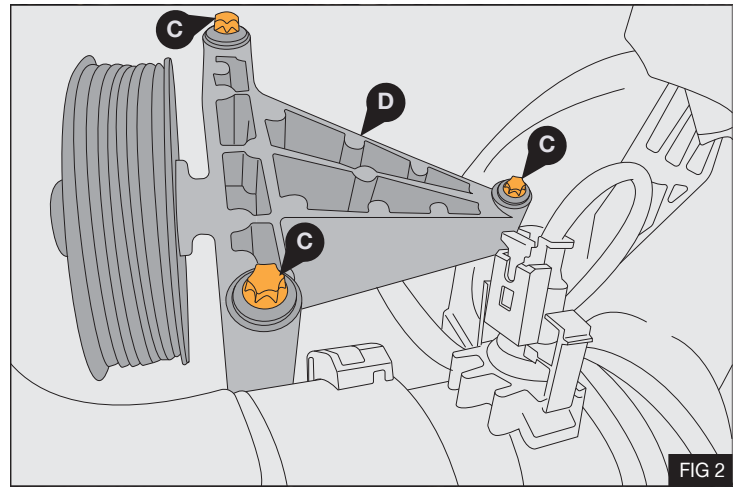

FIG 2
3. Undo x3 bolts **C**, remove the foolish pulley bracket **D** from the engine. Discard the bracket and the bolts. - Fig 2